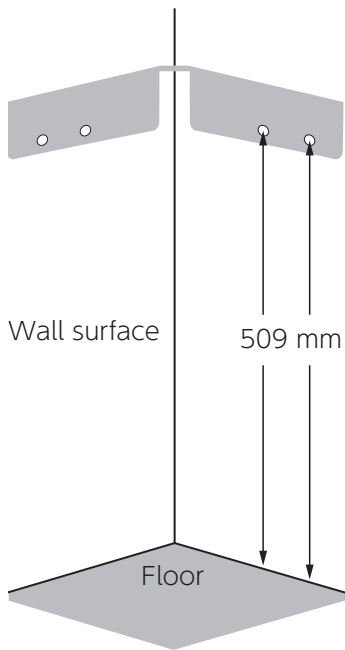

Figure 1
- Place the lower corner plate with nuts against the wall surface, and then marks 4 places. **Figure 1**